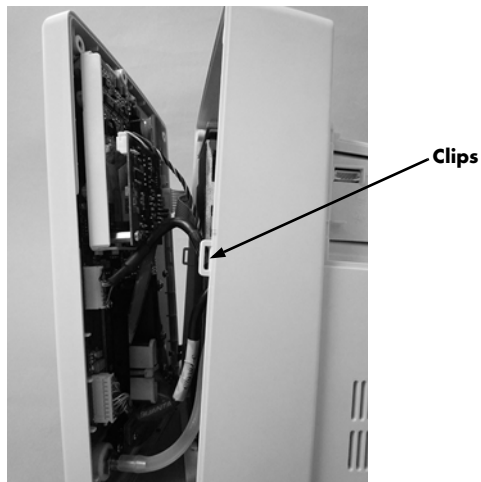

FIGURE 4-4 Release the clips.
3. Release the clips (as shown in Figure 4-4) on the front and rear housings.